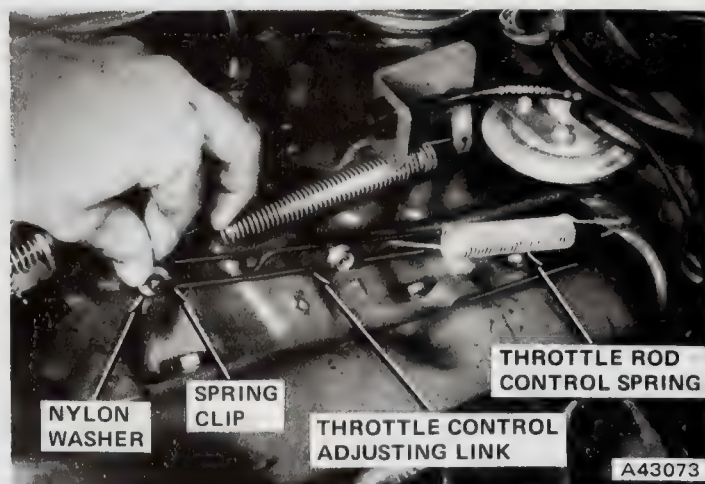

Fig. 2C-31 Installing Nylon Washer and Spring Clip—Eight-Cylinder Engine
- (5) Loosen retaining bolt on throttle control rod adjusting link. Remove spring clip and move nylon washer to rear of link.
- (6) Push on end of link to eliminate lash and tighten link retaining bolt (fig. 2C-30).
- (7) Install nylon washer and spring clip (fig. 2C-31).
- (8) Remove throttle control rod spring from linkage and install it on rod.
- (9) Lower car.